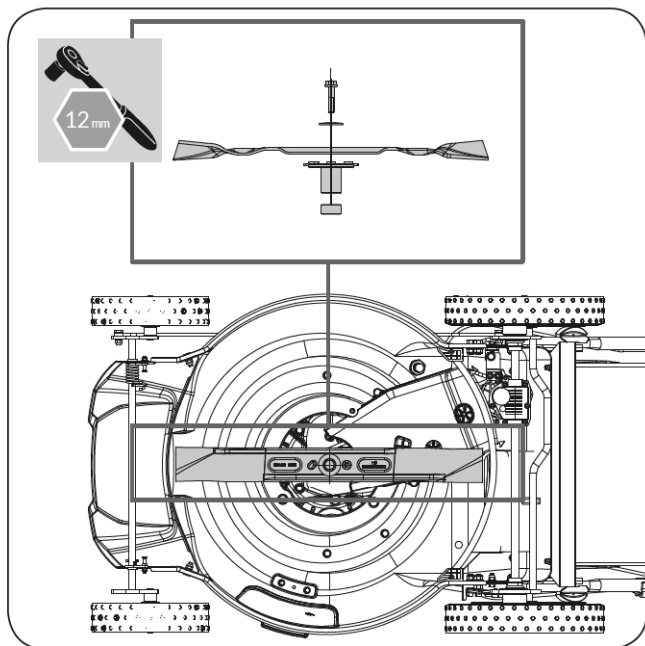

Figure 21
4. Remove the blade, saving all mounting hardware. Examine the blade support and blade bolt to see if there is damage. Examine the motor shaft to make sure that it is not bent. (See **Figure 21**)